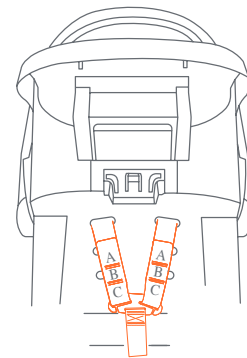

Fig. 32-2
8. Reassemble the Harness Straps to the Belt Adjuster Plate. Do the left Harness Strap first, followed by the right Harness Strap. Check that Harness Straps are completely within the Belt Adjuster Plate loop (Fig. 32-2). You have three adjustment positions on the harness.